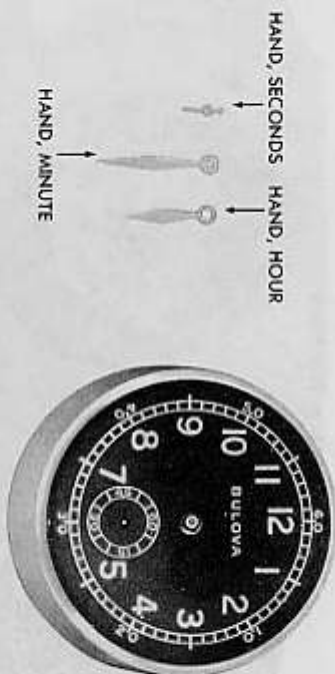

Figure 169 — Bulova Wrist Watch — Hands Removed
- f. Remove Hands (fig. 169). Protect the dial with paper and remove the hands, using a hand remover.
- q. Replace Hands (fig. 169). Replace the hands, aligning the tips of the hour and minute hands at the twelfth hour. Check the hands for clearance by turning them a complete revolution.